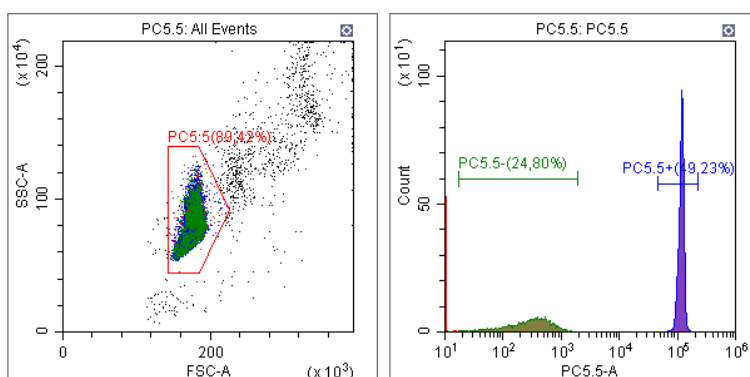

Figure 16. Establish the gates for the desired population.
- c. Move the gate in the FSC/SSC plot so that it encloses the desired population. If necessary, move the positive gate so that it encloses the positive population (Figure 16).